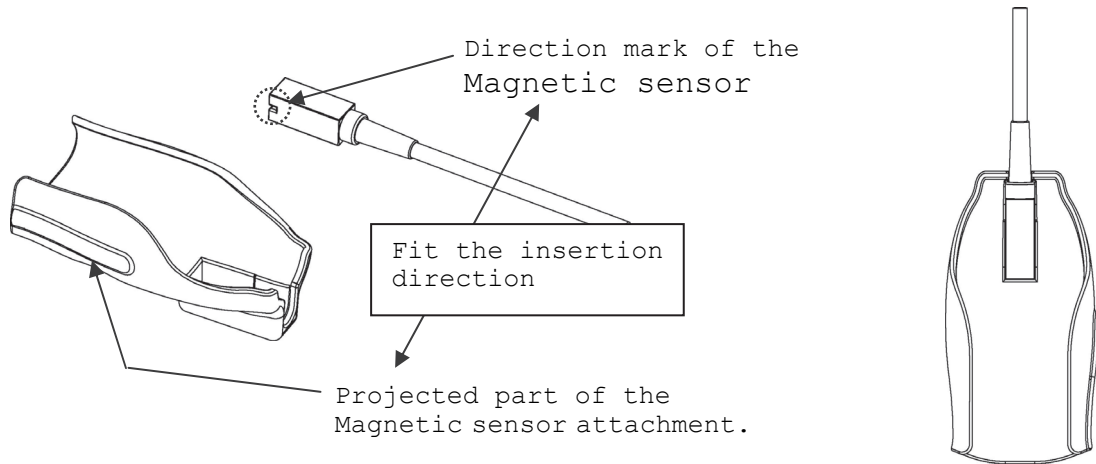

Fig. 11 How to attach the Magnetic sensor
- a) Attach the Magnetic sensor into the probe at the correct direction as shown in Fig. 11.